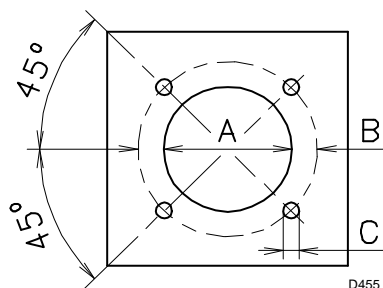

Fig. 6
4.3 Boiler plate (Fig. 6)
Drill the combustion chamber locking plate as shown in (Fig. 6). The position of the threaded holes can be marked using the thermal screen supplied with the burner.